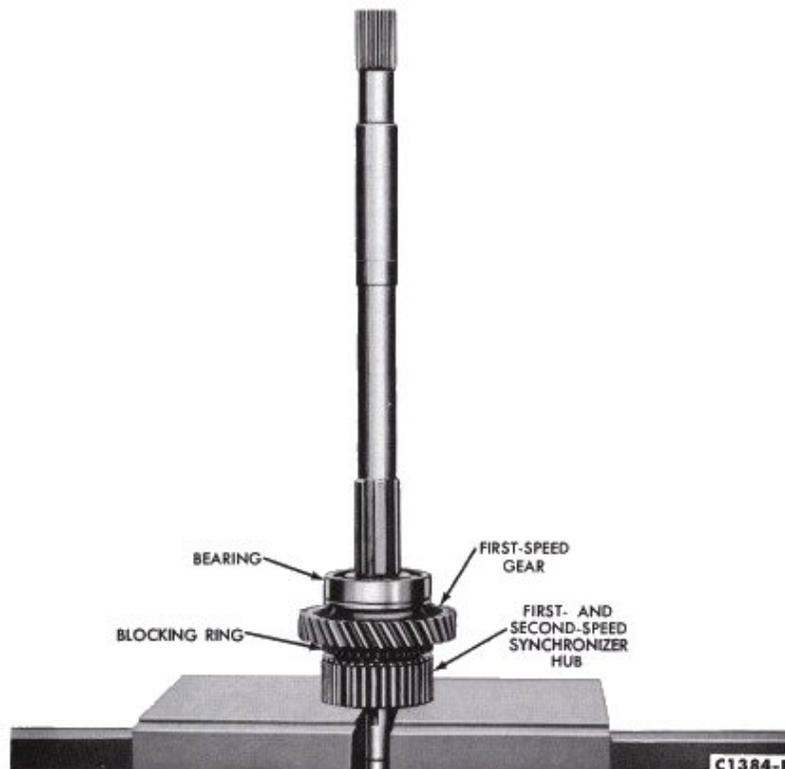

FIG. 20—Output Shaft Bearing Removal
adapter plate off the output shaft rear bearing. Remove the snap ring retaining the output shaft bearing to the output shaft and press the bearing off the shaft (Fig. 20).
18. Complete the disassembly of the output shaft by sliding off the first-speed gear thrust washer (plain), first-speed gear, first-speed gear bushing, first-speed synchronizer blocking ring and first and second-speed synchronizer assembly (Fig. 20).